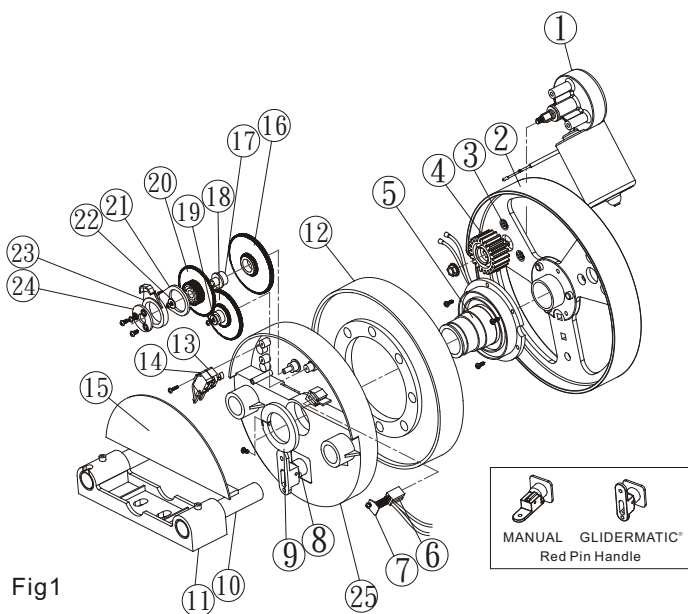

Fig 1
- v. Engage Glidermatic by switching manual release pin to Automatic refer (Fig. 1).